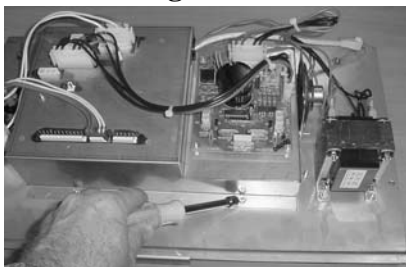

Figure 2-60
5. Using a 5/16" nutdriver or wrench, remove the 4 nuts securing the PC board shield and pull shield from studs. Figure 2-60.